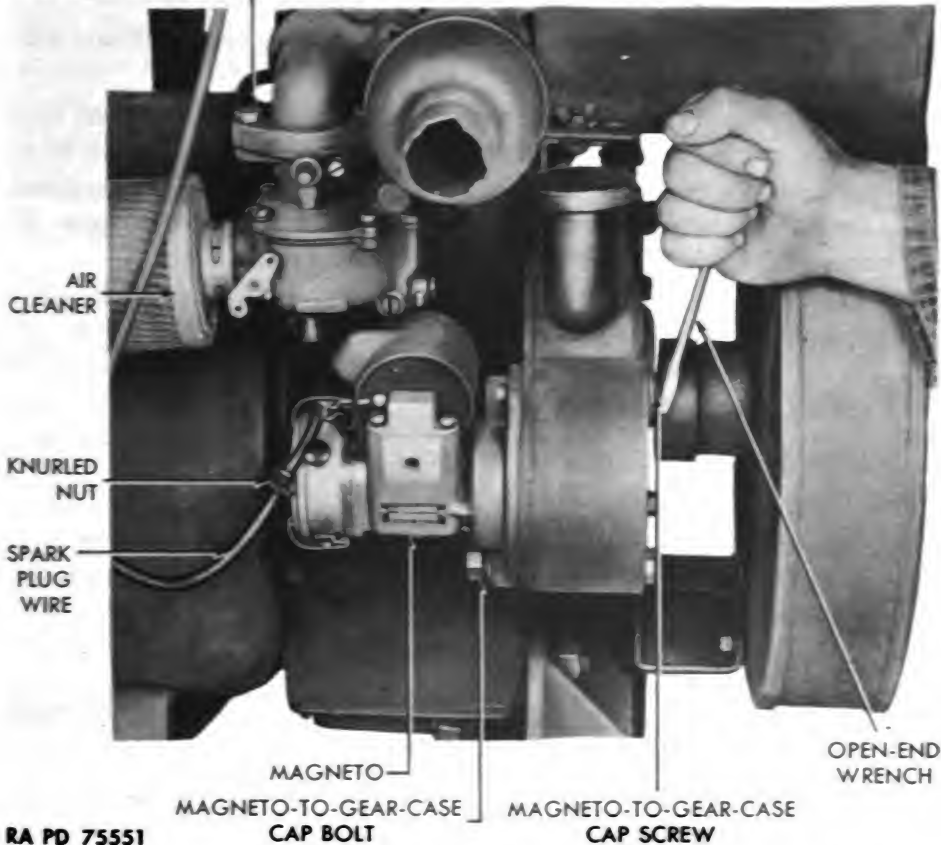

Figure 91 — Removing Centrifugal Pump Engine Magneto
- (1) Place engine on frame and slide toward pump until in position. Install four cap bolts, lock washers, and nuts securing engine to frame.
- (2) Install eight lock washers and cap screws which secure pump adapter to engine bell housing.
- (3) Install packing thrust washer, shim, Woodruff key, impeller, wear plate, case cover, and suction flange on pump (subpar. b, above).
e. Removal of Carburetor (fig. 91).
- (1) Remove air cleaner from carburetor.
- (2) Disconnect throttle control rod from carburetor. Use pliers to remove cotter key.
- (3) Turn off shut-off cock on fuel filter below gasoline tank and disconnect fuel line from carburetor.
- (4) Remove the two carburetor-to-manifold cap screws and lift carburetor and gasket from manifold.
f. Installation of Carburetor (fig. 91).
- (1) Using a new gasket, place carburetor in position on intake manifold. Install the two carburetor-to-manifold cap screws.
- (2) Using a new cotter key, connect throttle control rod to carburetor throttle lever.
- (3) Connect fuel line to carburetor. Turn on gasoline shut-off cock on fuel filter and check installation for leaks.
- (4) Install air cleaner on carburetor.
g. Removal of Magneto (fig. 91).
- (1) Unscrew knurled bakelite nut which holds spark plug wire to magneto. Pull spark plug wire from tower on magneto.
- (2) Remove the long cap screw and long cap bolt and nut which hold magneto flange to gear case. Lift magneto from gear case.
h. Installation and Timing of Magneto (fig. 91).
- (1) Remove spark plug. Holding thumb over spark plug hole, slowly crank engine until pressure is discernible on the thumb. Piston is then coming up on compression stroke. Continue to crank slowly until piston reaches top dead center (highest position). If engine is removed from unit, top dead center is discernible by position of key-way in crankshaft straight up.
- (2) Turn magneto shaft slowly in direction of rotation and note position at which impulse trips (indicated by clicking sound).
- (3) Hold magneto in impulse trip position, place pinion in mesh